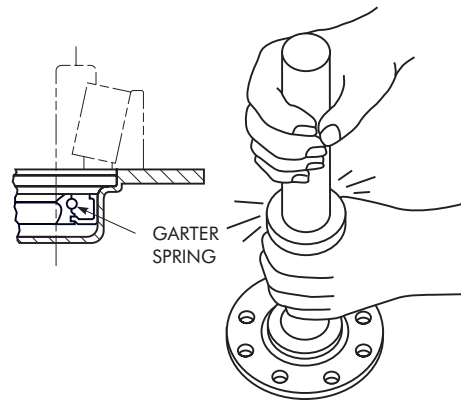

Figure 2
2. See Figure 2. Position seal squarely in seal cage with the spring toward the bearing. Place a square ended cylindrical tool against the seal and press or lightly tap the tool (not the seal) until the seal is seated.